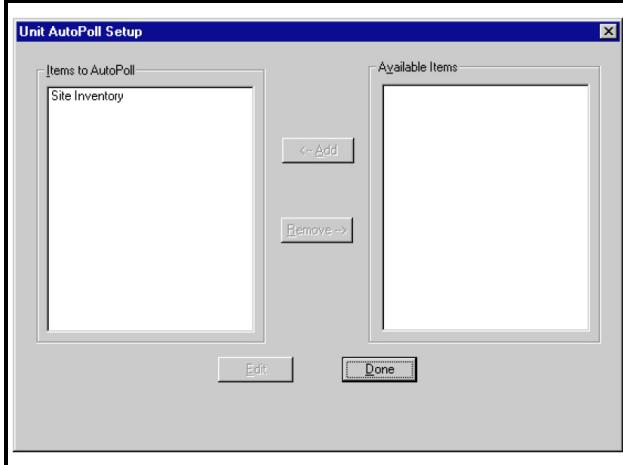

Figure 10-6 Unit Autopoll Setup Dialog Box
- The Unit Autopoll Setup dialog box for this site should appear (*Figure 10-6*).